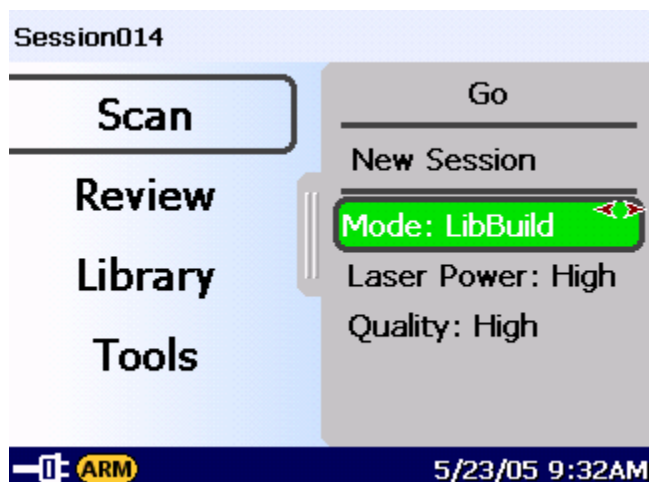

Figure 3-7: The Library Build Slide-In Menu
- b) *Library Build*: This mode is used whenever the user wants to acquire data with a higher signal to noise ratio than that used in *Auto*. This mode is used when it is anticipated that the spectrum will be added to the library or when the unit will be used primarily only as a data acquisition instrument. When this mode is selected, the slide-in menu shown in Figure 3-7 will be presented and the Laser Power and the Quality can be chosen.
NOTE: The red arrows in the mode box (Figure 3-7 and 3-9) indicate that the desired choice for this parameter can be made via the left or right arrow as an alternative to viewing the Option menu. Similar arrows are presented for the *Laser Power*, *Quality* and *Exp. Time* fields, when these fields are highlighted.